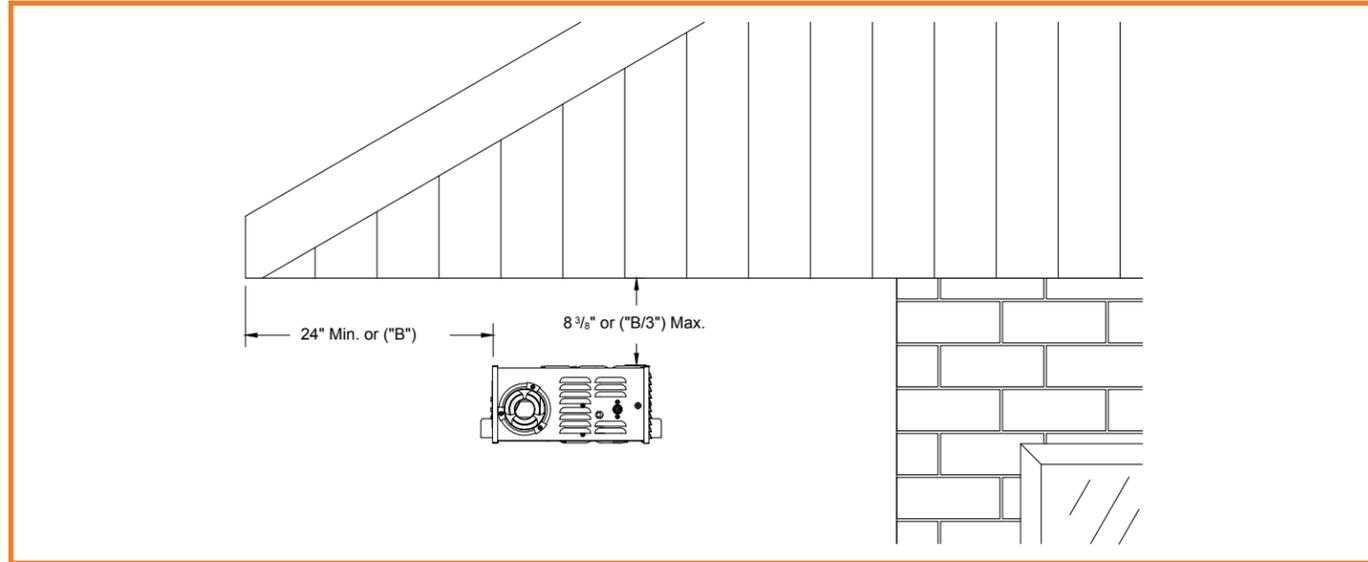
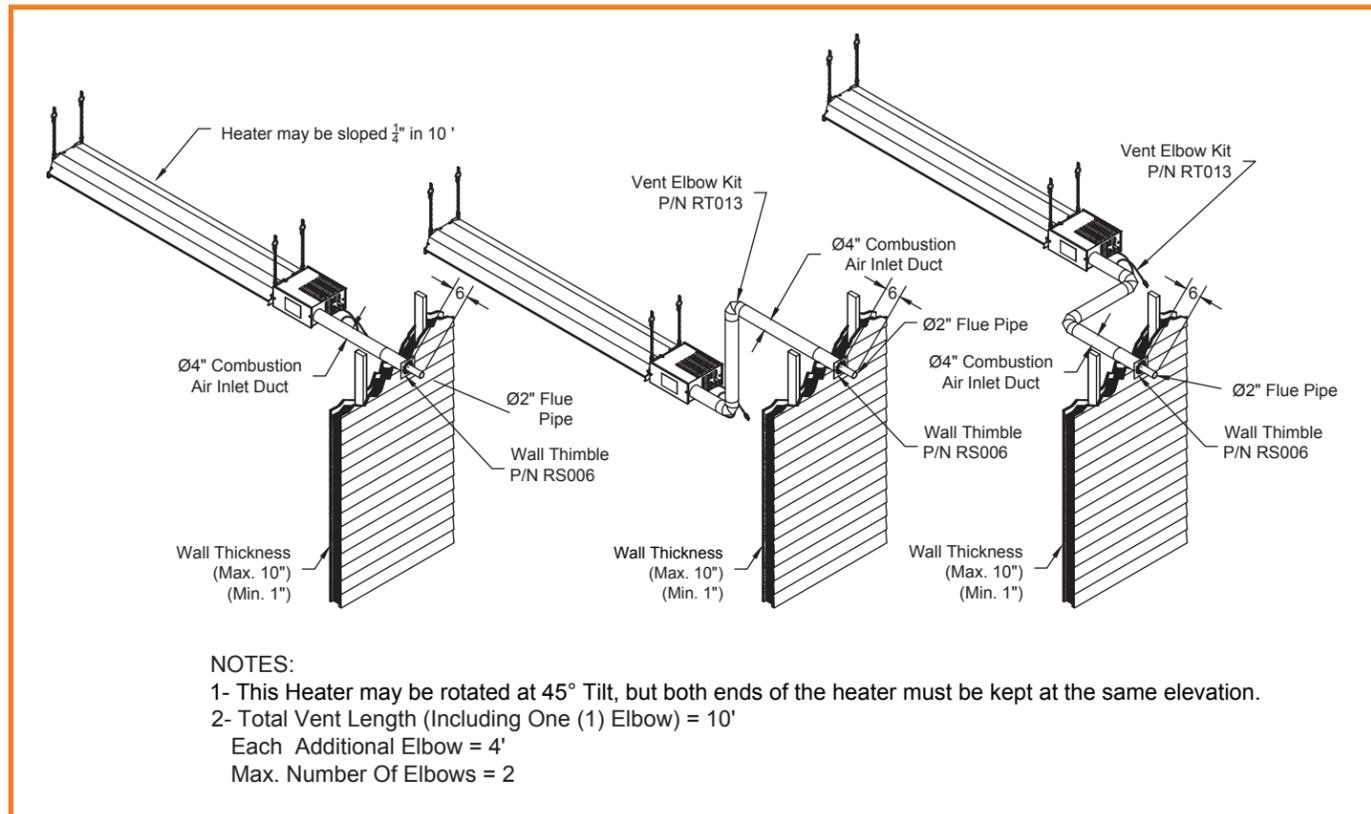

Figure 4: Mounting Distances for Outdoor Installations under Eaves
Figure 9: Various Venting Orientations
For outdoor installations the heater must be installed not more than 8" from beneath awnings, and not less than 24" from back and side as shown in Figure 4. If the heater cannot be protected from the elements by an overhang, then a protective cover must be installed as shown in Figure 7, Figure 8 and Figure 9.
- This equipment is of balanced flue construction and must be horizontally vented (see Figure 9). Vertical venting is permitted, but not as a balanced flue assembly. (See roof venting)
- For horizontal venting where an elbow is utilized an elbow kit (Part No. RT013) must be used, refer to Figure 9 for more details.